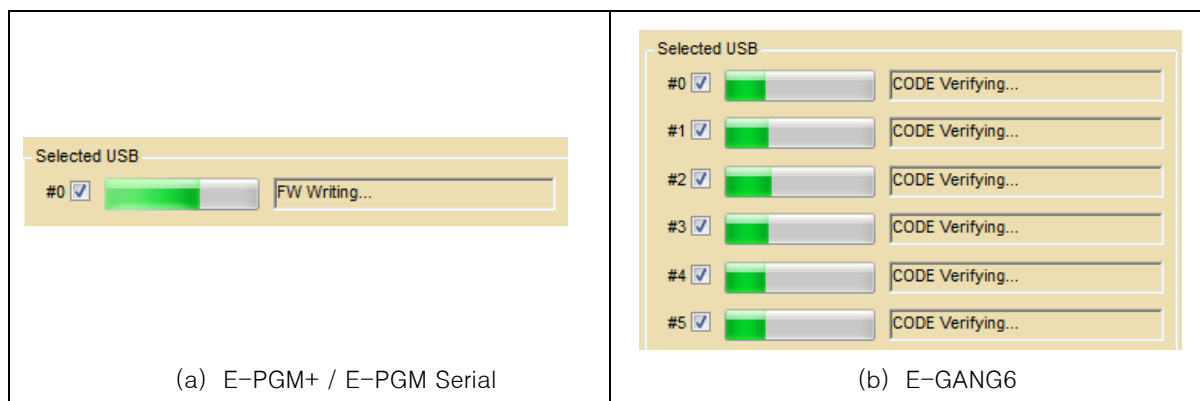

Figure 23. Displayed Progress Bar
- ③ The 'Update' button is used to update the tool with the finalized settings. Pressing this button updates the tool with the hex file and option values. The progress bar displays the progress of the update as show in Figure 23. The status is displayed next to the progress bar as OK or Fail upon completion.